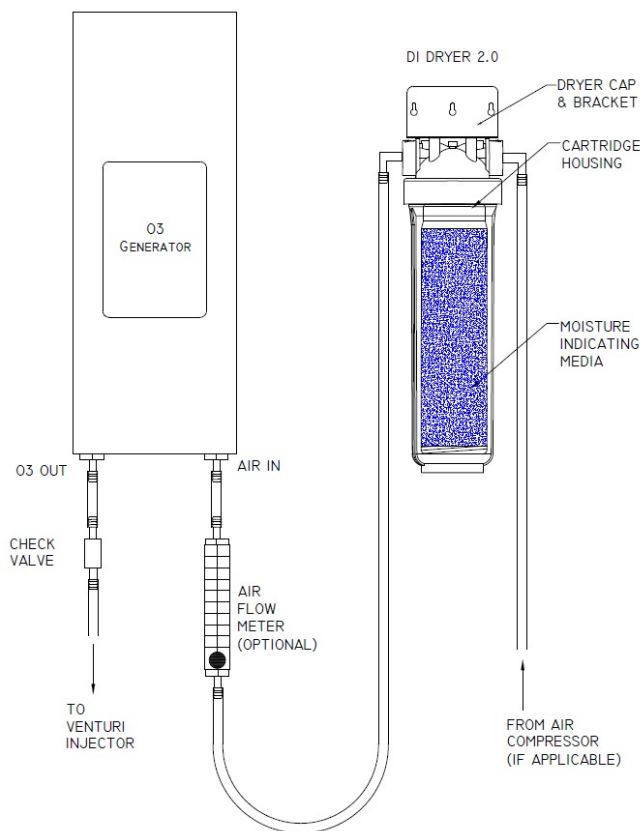

Figure 1. DI Dryer 2.0 Typical Use Diagram
**\* Reference Figure 1 for typical use \***